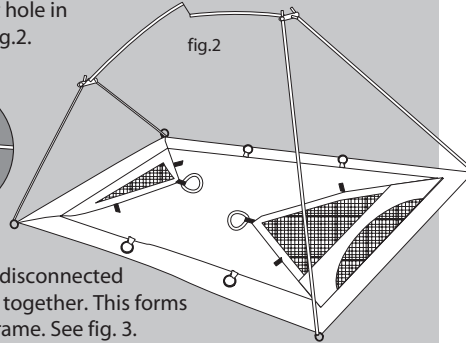

fig.2
• Disconnect the rods in the middle of the spanner. Place one end of the spanner through the center hole of the first junction tube. Place the opposite end of the spanner through the center hole in second tube. See fig.2.